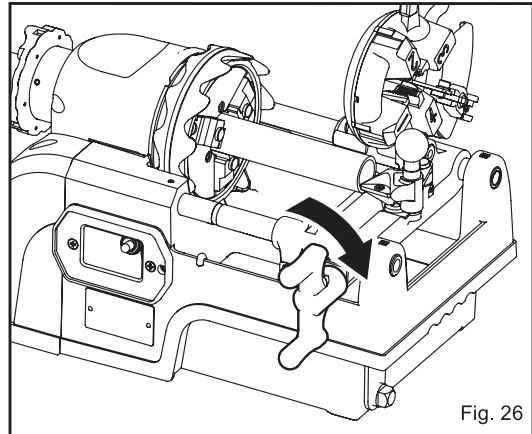

Fig. 26
- (3) Turn the machine on to start the pipe rotating. Then turn the carriage handle to the right to move the reamer forward to engage the pipe. Allow the pipe to rotate at least  $\frac{1}{2}$  a turn, and then remove the reamer from the pipe. That completes the reaming process. (Fig. 26)